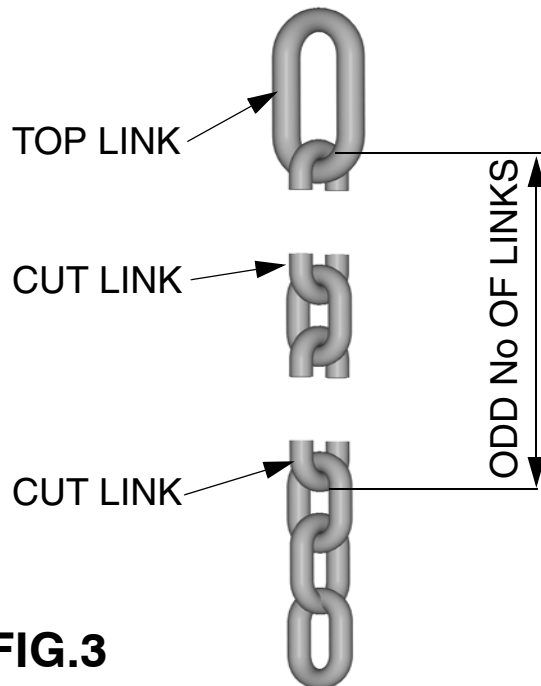

FIG.3
- v) Cut another chain link to remove correct odd number links from chain. (See FIG.3)